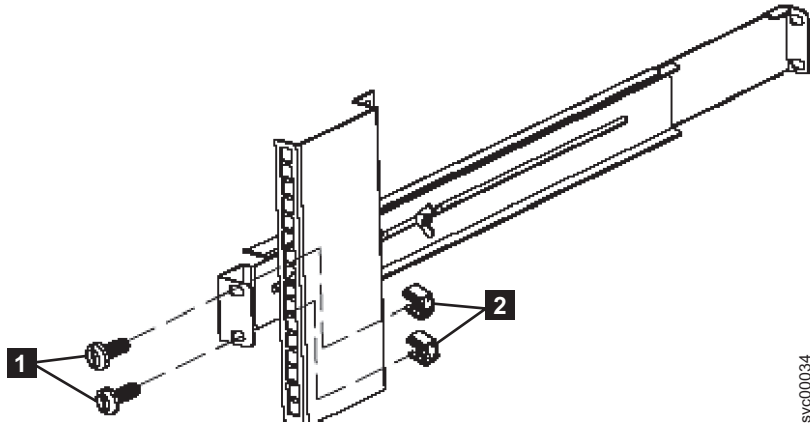

Figure 10. Securing the rear rail on the 2145 UPS-1U
6. Using two M6 × 10 screws (**1** in Figure 10 on page 17) and two clip nuts **2**, attach the rail to the rear of the rack. The customer's rack might be different than the one shown here, and if so, might require different clip nuts or fasteners.